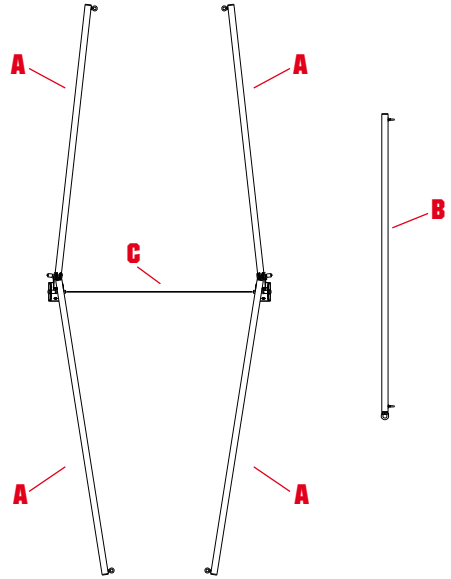

fig. 2
- a) Arrange the side bars (A) and the top bar (B) on the ground - (fig. 2).